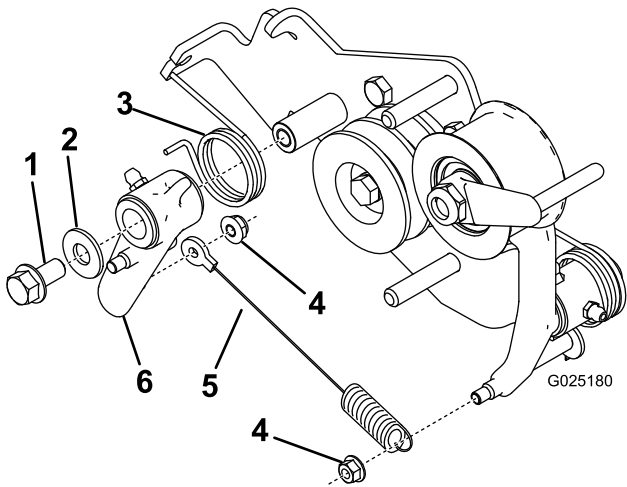

Figure 3
4. Remove the traction lever assembly and necessary parts from the existing clutch bracket and install them on the new clutch bracket (Figure 3).
5. Connect the existing cable link to the traction lever assembly and the clutch lever using 2 nuts from the existing assembly (Figure 3).